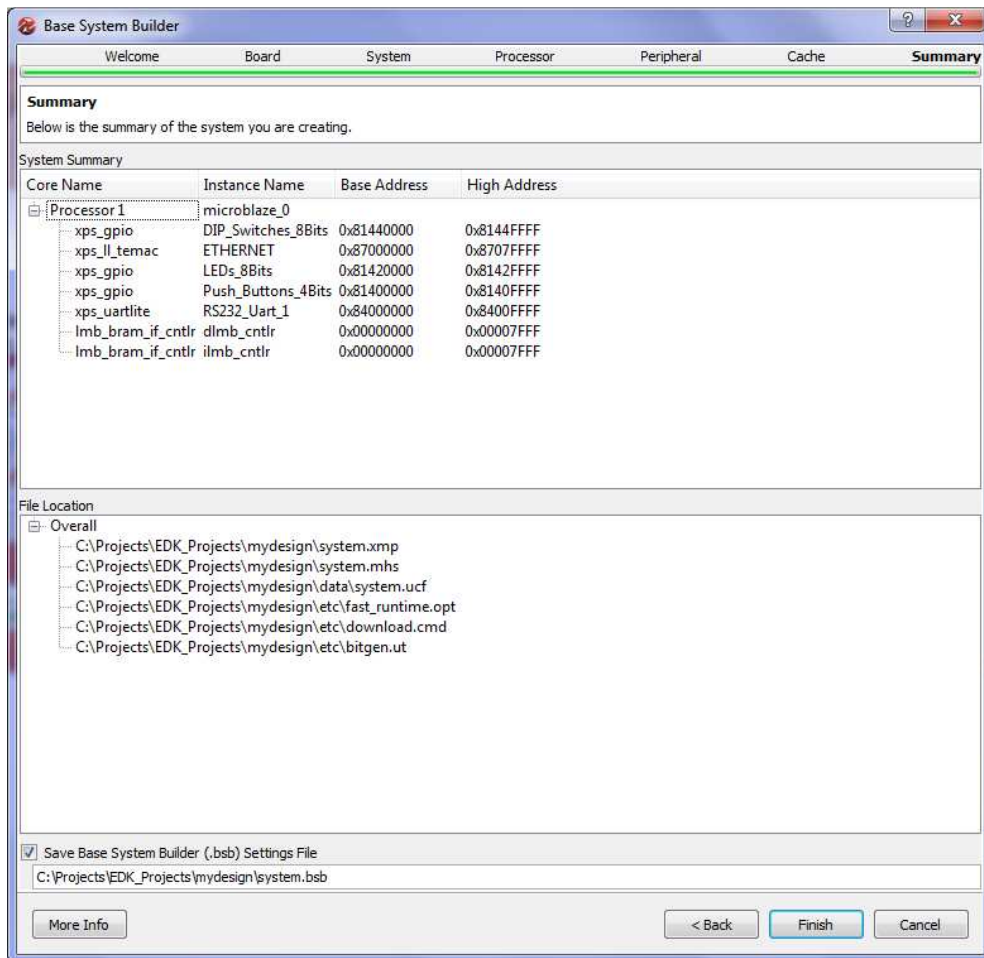

Figure 12. System Summary (Step 10)
Step 10: Now we are done configuring the hardware. The last screen of the “Base System Builder” is shown in Figure 12. This screen displays a summary of the system being built. Two types of information are displayed; system components and file allocation. The components list displays the name of each component and the address associated with it. The address assigned to each peripheral is unique and it is used by the processor to locate a specific device and communicate with it. For example, the device DIP_Switches_8Bits (the 8 switches on the board) is assigned the address 0x81440000 which means that the processor will use this address to read the value of the switches as digital input.